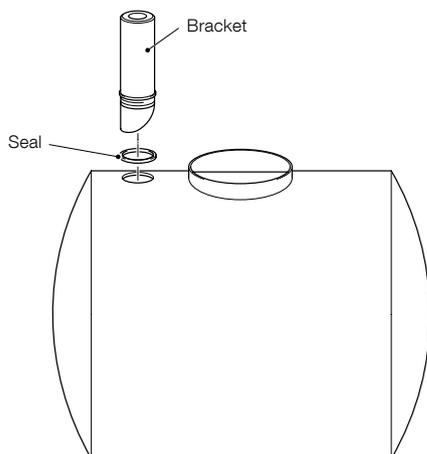

Fig. 2.5: Installing the mounting bracket on a tank with the seal
2. Referring to Fig. 2.5, place a seal on the tank surface around the hole and insert the bracket through the seal and the hole. **Note:** the seal is used to prevent leakage from the environment into the tank.